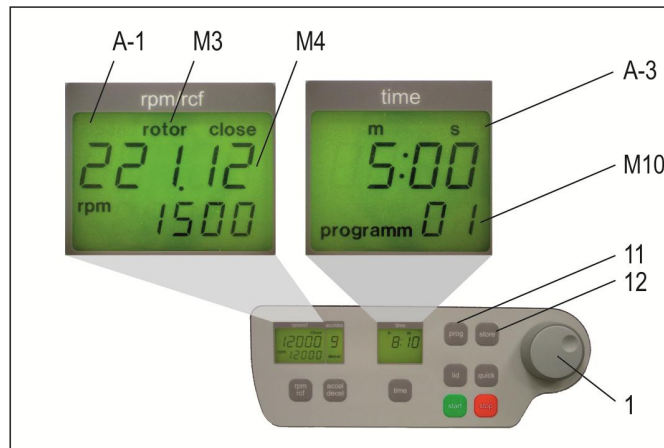

Figure 24
Put the needed rotor into the centrifuge. By pressing the key „prog“ (11) in the display „time“ (A-3) appears the word „program“ (see figure 24). With the adjusting knob (1) you can chose the desired program number.
If a program number is already occupied in the display „rpm/rcf“ (A-1) will appear the words „rotor“ (M3) and „22x.xx“ (M4) (see figure 24). In case of free program numbers it appears 0.